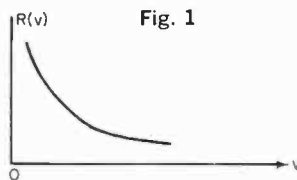

Fig. 1
A. Definition. A linear element is one that, if its input is increased by a given amount, responds with a proportional increase. For example, if the voltage across a linear resistor is doubled, the current flowing in the resistor is also doubled. A *nonlinear* resistor is shown in Fig. 1. Note that the value of the resistor, $R(v)$, depends on the voltage across it. (In this article we are concerned only with linear elements.)